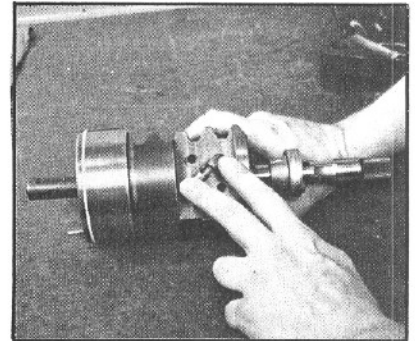

Figure 100
6. Assemble the ball return guide halves (43) into the rack piston (31) (FIG. 100). Make sure they are correctly seated.